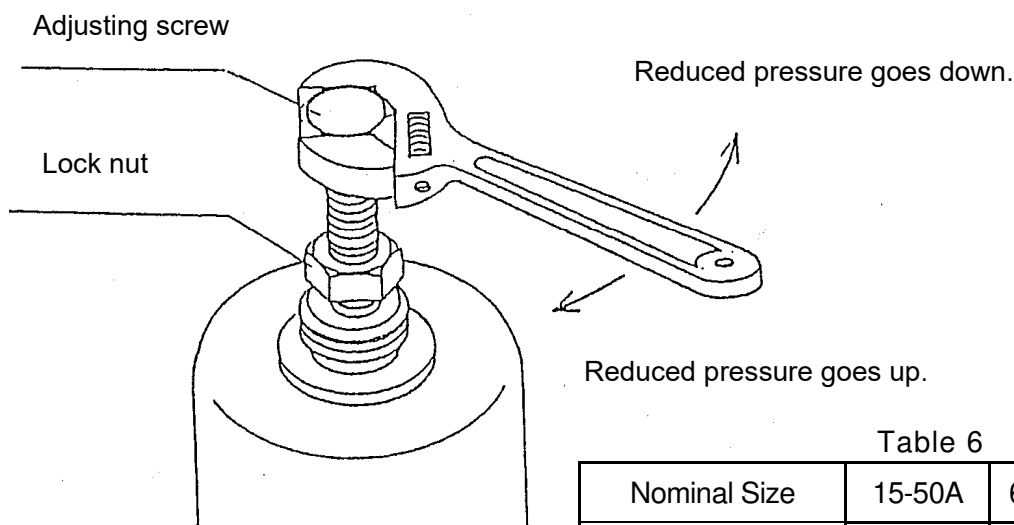

Fig.12
- (1) Before leading fluid into the product, close the stop valves at the inlet and outlet of the product and remove foreign substances and scale from the piping completely by using a bypass line.
- (2) To adjust the set pressure, turn the adjusting screw slowly.
- (3) If closing outlet side of the product and keeping fluid inside the product for an extended period, sliding parts become stuck and it causes malfunction of the product.
- (4) If there is a possibility of freezing or the product is not used for an extended period, completely discharge fluid from the product and pipes, and close the stop valves at the inlet and outlet sides of the product.
- (5) If the systems have been out of service for a long time, please perform the following operational checks before restarting the systems.
- Check if the set pressure changes when turning the adjustment screw (see Fig. 12).
- (6) In case of outlet pressure for size 65A to 150A is unstable because of an air obstruction or etc. adjust opening of needle valve at detecting pipe. It is fully opened at the time of shipment.
- (7) The set pressure may be affected by ambient temperature (external temperature) and fluid temperature. Install pipes so that the product may not be exposed to direct sunlight.
- (8) Follow the steps below, and slowly turn the adjusting screw to set pressure. Incorrect adjustment may cause hunting, water hammer, etc., resulting in damage to the valve and other equipment.